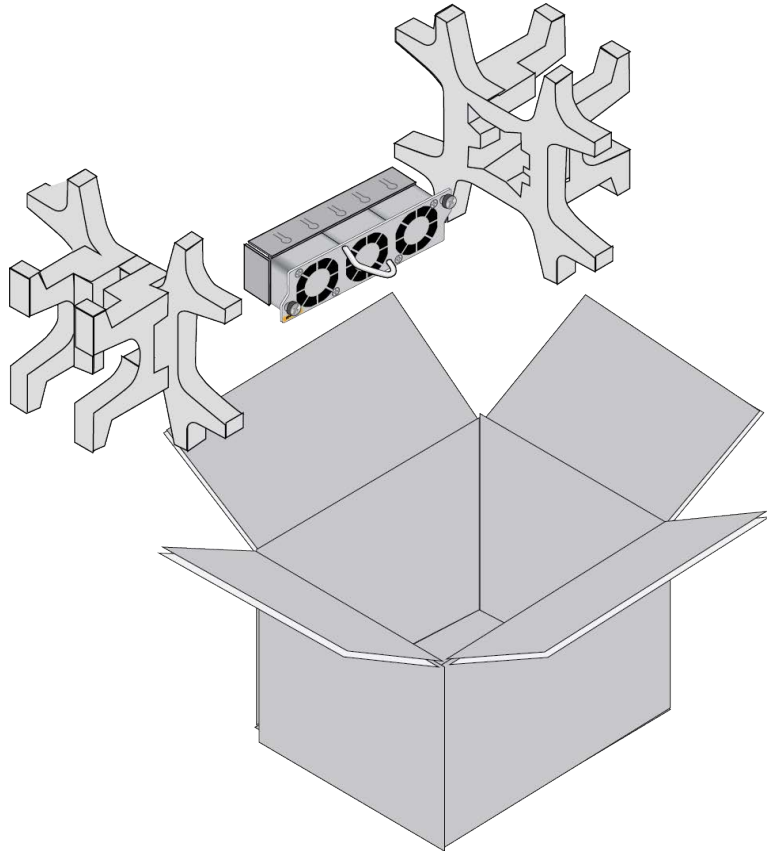

Figure 157. Removing the Fan Module from the Shipping Container
1. Remove the new fan module from its shipping box. Refer to Figure 157.